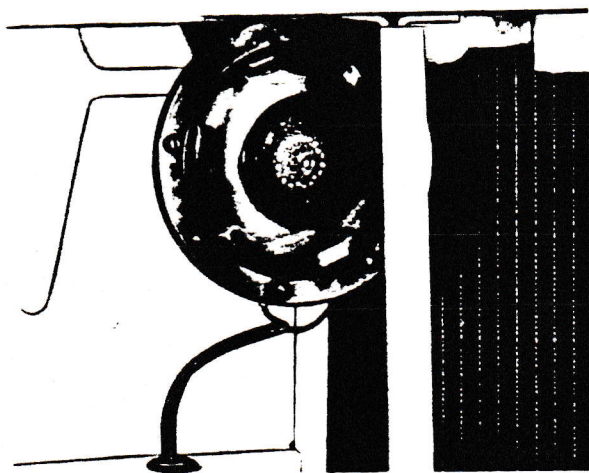
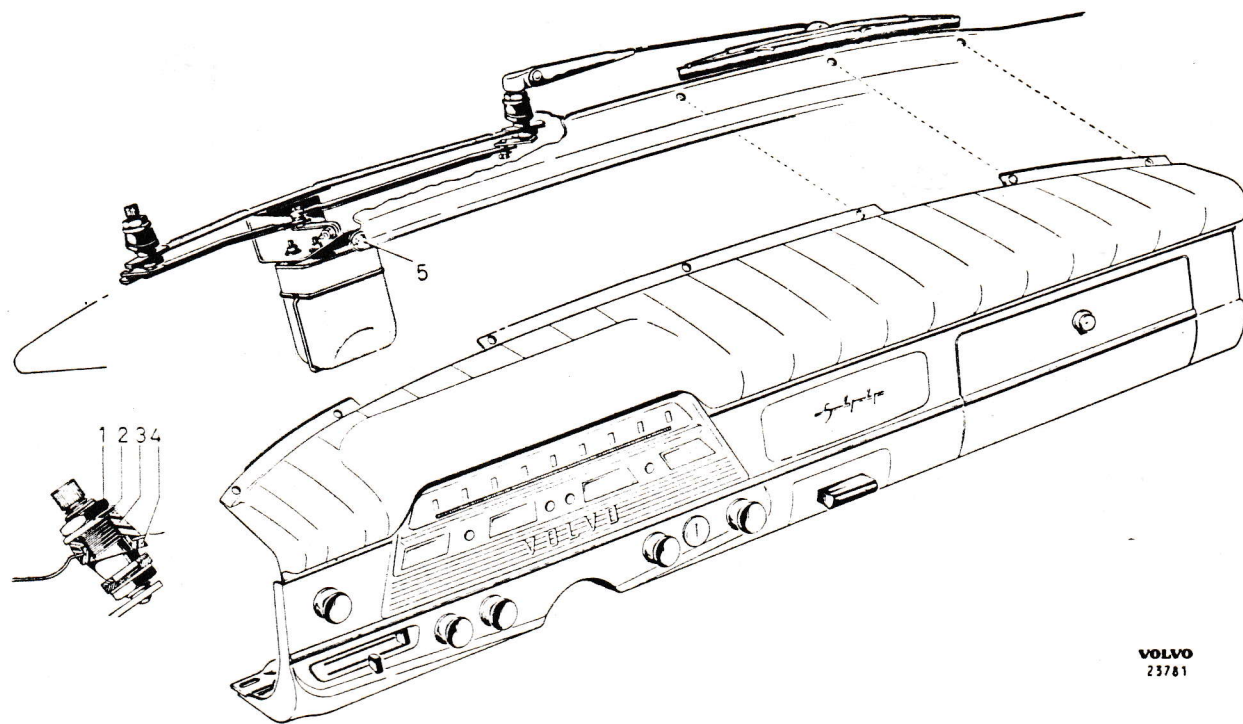

Fig. 97. Horn, fitted
Fig. 98. Windscreen wiper and dashboard
2. Remove the nut (1 Fig. 98) for the bearing and lift of the washer (2) and seal (3).
4. Unscrew the screw (5), Fig. 98, holding the wiper mechanism to the body. This is accessible from the reverse side of the instrument panel.
For fitting extra electrical equipment at the rear of the vehicle, for example, rear window fan and reversing lamp, two leads are included in the cable harness. The cable harness is placed along the roof of the vehicle inside the headlining. The extra leads are accessible under the instrument panel as shown in Fig. 97 and at the rear in the luggage compartment as shown in Fig. 98.